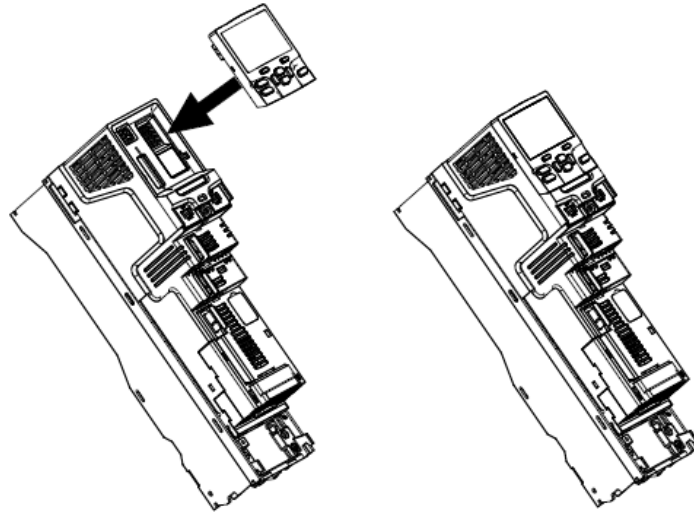
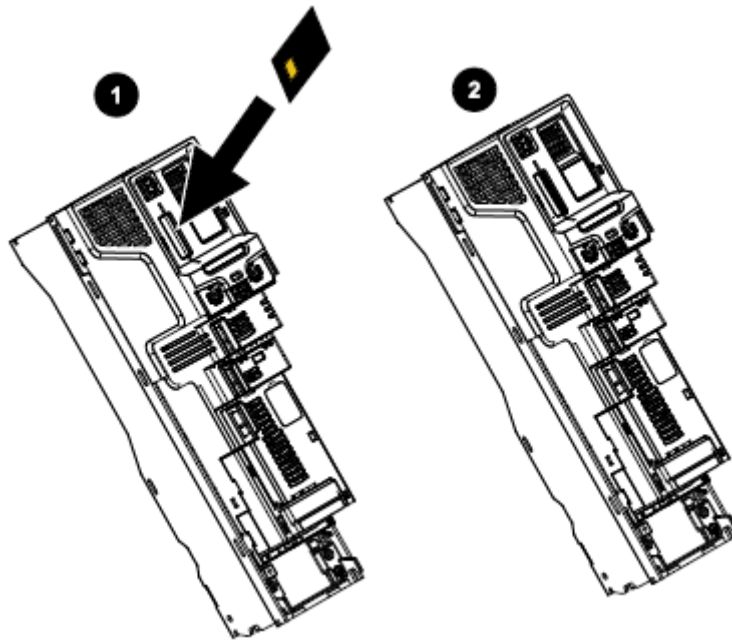

Figure 1
Figure 2
The following steps are needed to program a new NV Media Card or anytime the user wishes to save a new backup project to the NV Media Card residing in the working drive. In order to gain access to the drive NV Media Card the drive keypad will need to be removed as shown in Figure 1. The drive keypad can be installed or removed while powered down or when the drive is on.
To install, align the keypad and press gently in the direction shown in Figure 1 until it clicks into position. To remove, reverse the installation instructions.
Once the keypad has been removed the NV Media Card can be installed into the drive as shown in Figure 2. The NV Media Card can also be installed with drive power on, but make sure the drive is disabled and there is no voltage applied to control terminal 31.
The NV Media Card is located at the top of the module under the drive display (if installed) on the left-hand side. Ensure the NV Media Card is inserted with the contacts facing the left hand side of the drive as seen in Figure 2 (1).
The NV Media card installed into the drive in Figure 2 (2) below.
Once the NV Media card has been installed into the drive as shown in Figure 2 (2) the drive keypad will need to be replaced and drive powered on in order to program the NV Media card. Using the drive keypad scroll up or down to drive parameter 00.030. Press the keypad 'M' so that 'None' is flashing and then using the up arrow change to 'Program' and press the Red Reset button.
Remove the drive keypad and install the NV Media card that has the backup drive parameters stored on it as shown in Figure 1 and Figure 2 and apply power to the drive. Make sure the drive is not enabled and there is no voltage applied to control terminal 31. Using the drive keypad scroll up or down to drive parameter 00.030. Press the keypad 'M' so that 'None' is flashing and then using the up arrow change to 'Read' and press the Red Reset button.